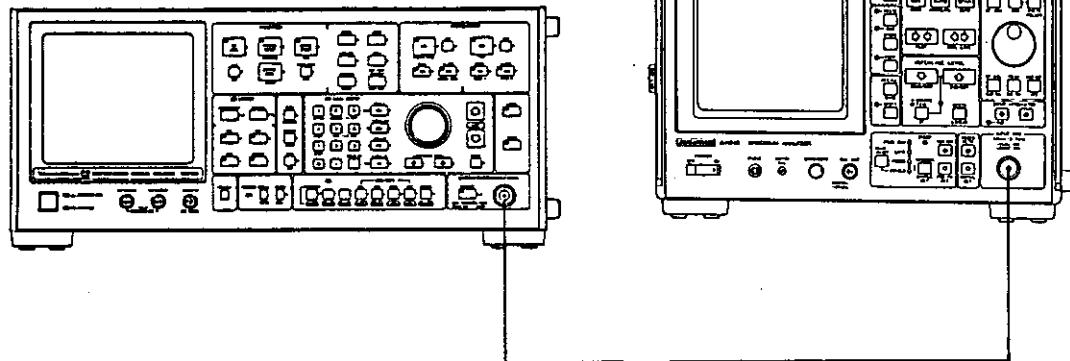

Figure 11-10 Noise Sidebands Test Setup
(2) Procedure
① Connect the spectrum analyzer and the synthesized signal source to each other as shown in Figure 11-10.
② Set the output of the synthesized signal source to 1 GHz (carrier wave) and -10 dBm.
③ Set the spectrum analyzer as follows: